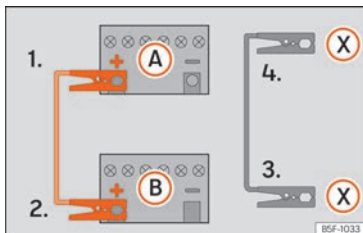

Fig. 46 Diagram of connections for vehicles with Start Stop system
- 4b. *In vehicles with a Start-stop system:* connect one end of the *black* jump lead (X) to a suitable ground terminal, to a solid piece of metal in the engine block, or to the engine block itself »» Fig. 46.
5. Connect the other end of the *black* jump lead (X) to a solid metal component bolted to the engine block or to the engine block itself of the vehicle with the flat battery. Do not connect it to a point near the battery (A).